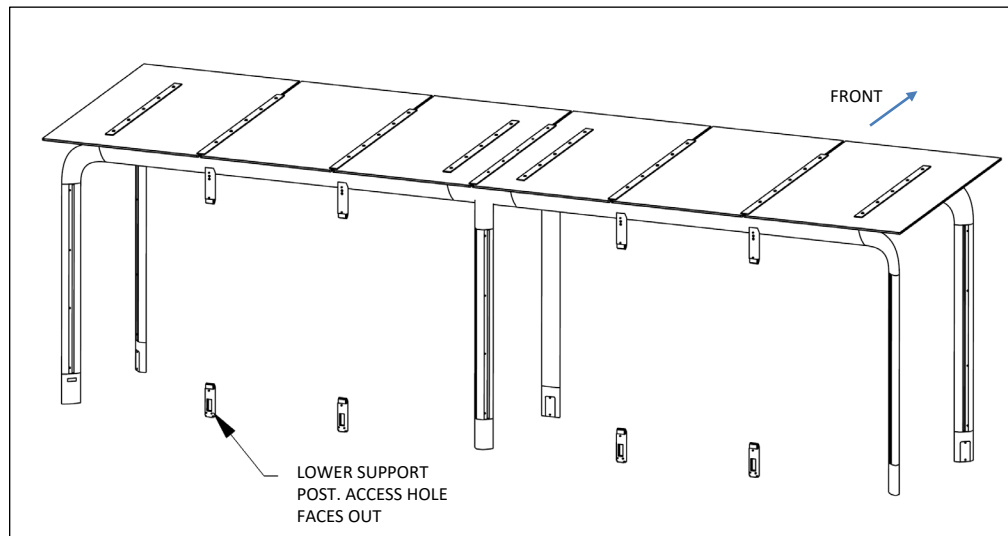

Fig. F3 – glass post orientation
2. Attach upper posts to horizontal beams and check for level – note orientation, see Figs. F3 and F4. Securely tighten.